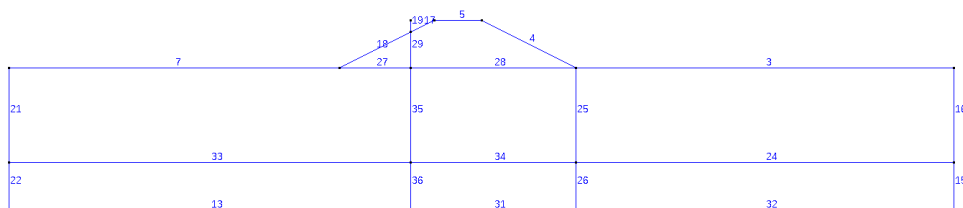

Figure 8.1: All outlines tutorial 1
- 4 Create all the intersections between the lines by clicking on the  button and selecting everything. The outlines should look as displayed in Figure 8.1. Further references to line ID's are done using the line ID's as shown in the figure.